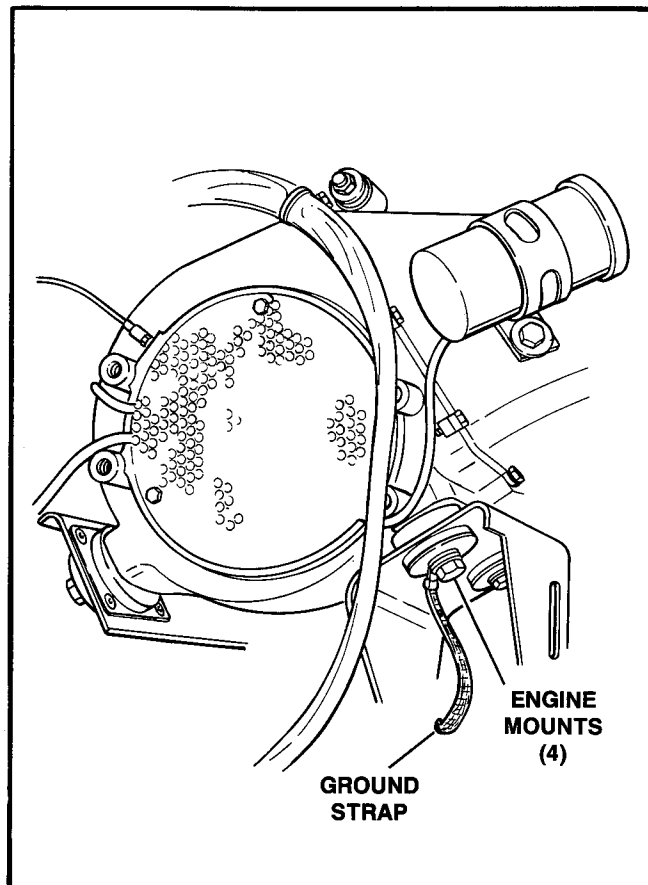

Figure 45 - Motor Mounts
- f. See Figure 45. Disconnect the stabilizer from the engine. Remove the engine mounting hardware. Remove the engine from the frame.
Inspection and Repair of Motor Mounts (Figure 45)
- a. See Figure 45. Place the engine in the frame. Secure the engine to the mounts using the original hardware. Secure engine ground strap to left front motor mount bolt. Tighten the bolts and nuts to 30-35 ft.-lbs. (4.1-4.8 kgm) torque.